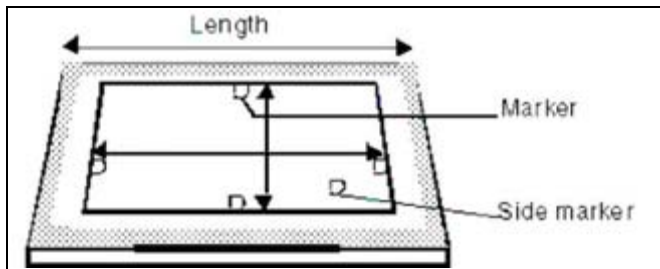

Fig. 92: Light field/radiation field, cassette
- For XP/ Hybrid/ Eco, mark the light field with 4 washers (Fig. 92 / p. 94).
- Place one washer as a side marker (Fig. 92 / p. 94).